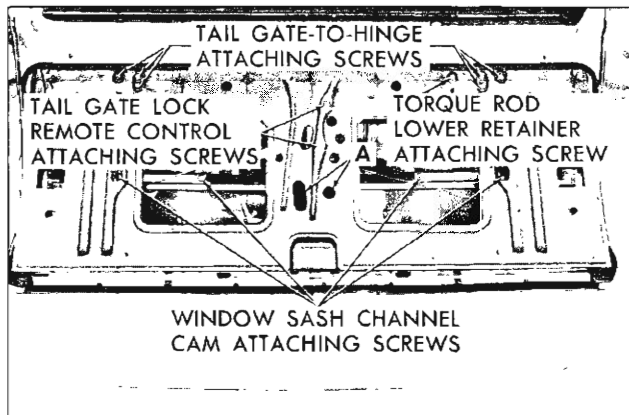

Fig. 88—Tail Gate Hardware
8. With the aid of a helper remove tail gate to hinge attaching screws (fig. 88) from both hinges and remove tail gate assembly from body.
To adjust the tail gate assembly "up or down" sideways in the body opening loosen the tail gate to hinge attaching screws (fig. 88); shift tail gate to desired position and retighten screws.
4. Remove torque rod lower retainer attaching screw (fig. 88) and remove retainer.
5. Remove remote control assembly attaching screws (fig. 88) and lay remote control assembly on tail gate window.
2. Detach tail gate inner panel water deflector sufficiently to gain access to window lower sash channel attaching bolts (fig. 88). Remove tail gate inner panel access hole covers.
3. Carefully operate window upward until the window lower sash right and left cam attaching bolts are accessible through access holes (fig. 88).
4. Remove window lower sash channel right and left cam attaching bolts (fig. 88) and disengage cams from window lower sash channel. Remove window assembly from tail gate.
NOTE: To open the tail gate on styles with electric windows when window assembly is removed, depress tail gate lock remote control locking lever through access hole at location "A," (fig. 88) and at the same time operate the tail gate remote control inside handle.
panel left access hole cover; then remove both right and left window lower sash channel cam attaching screws (fig. 88) and lift window sufficiently to gain access to motor attaching screws. Prop window in up position.